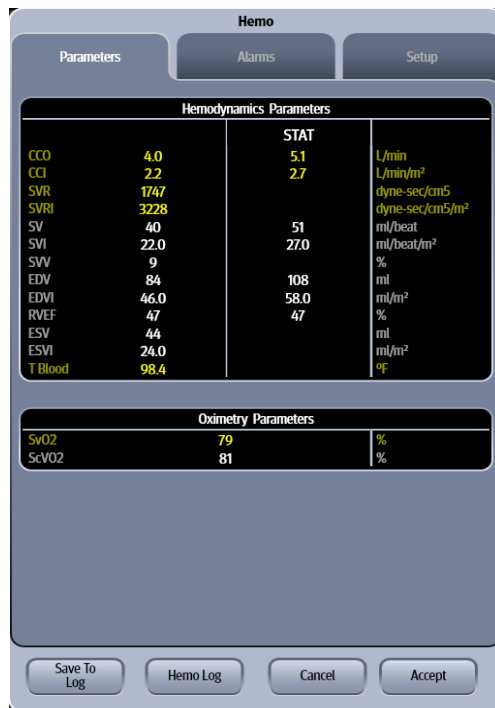

FIGURE 1-11
2. Verify that there are calculations in the Hemodynamics Parameters table (as shown in FIGURE 1-11).